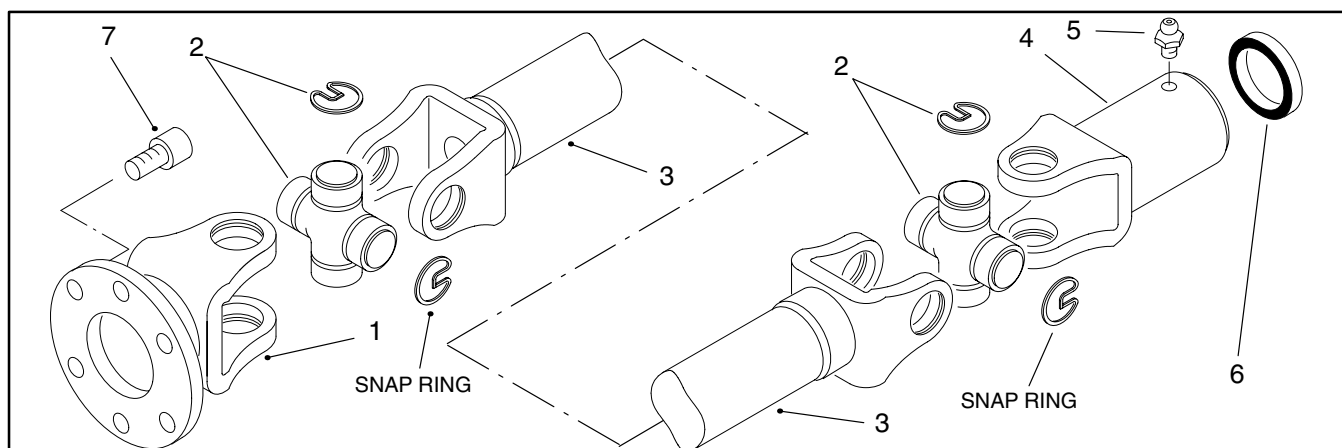

Figure 67
### Disassembly and Assembly (Fig. 67)
1. The differential drive shaft can be disassembled and assembled using Figure 67 as a guide.